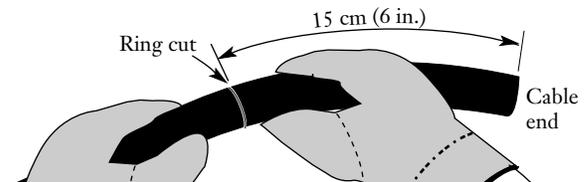

Figure 5
5.4 Gently bend the cable at this second ring cut to break the armor (Figure 5). DO NOT violate the minimum bend radius of the cable during this step.